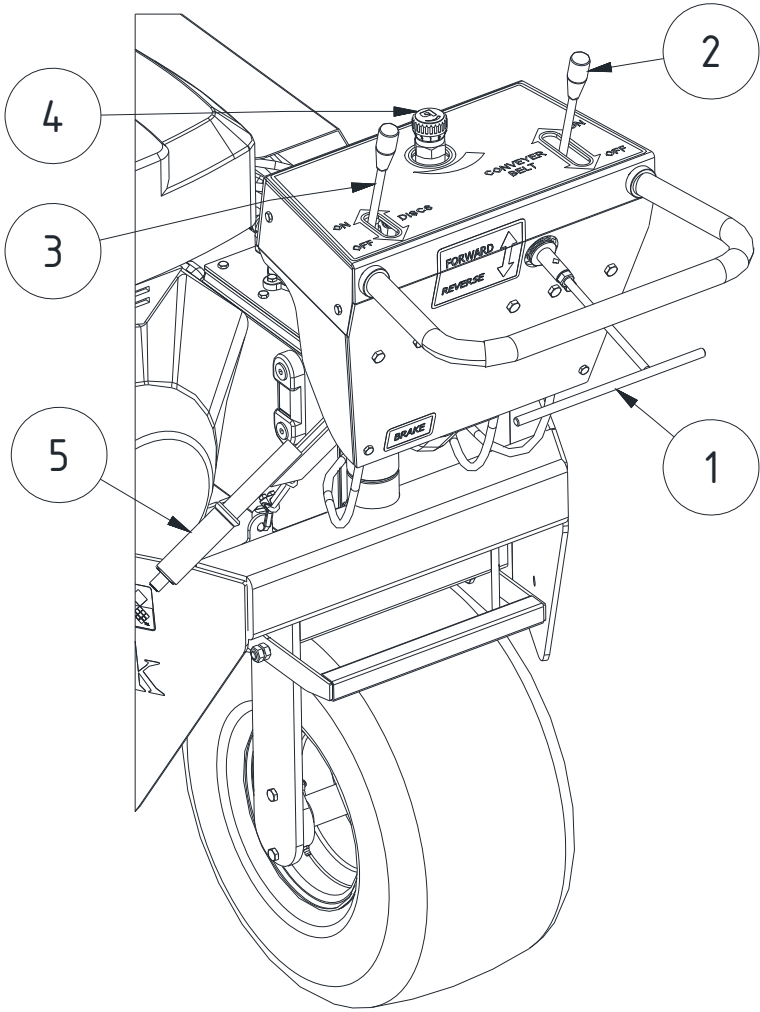
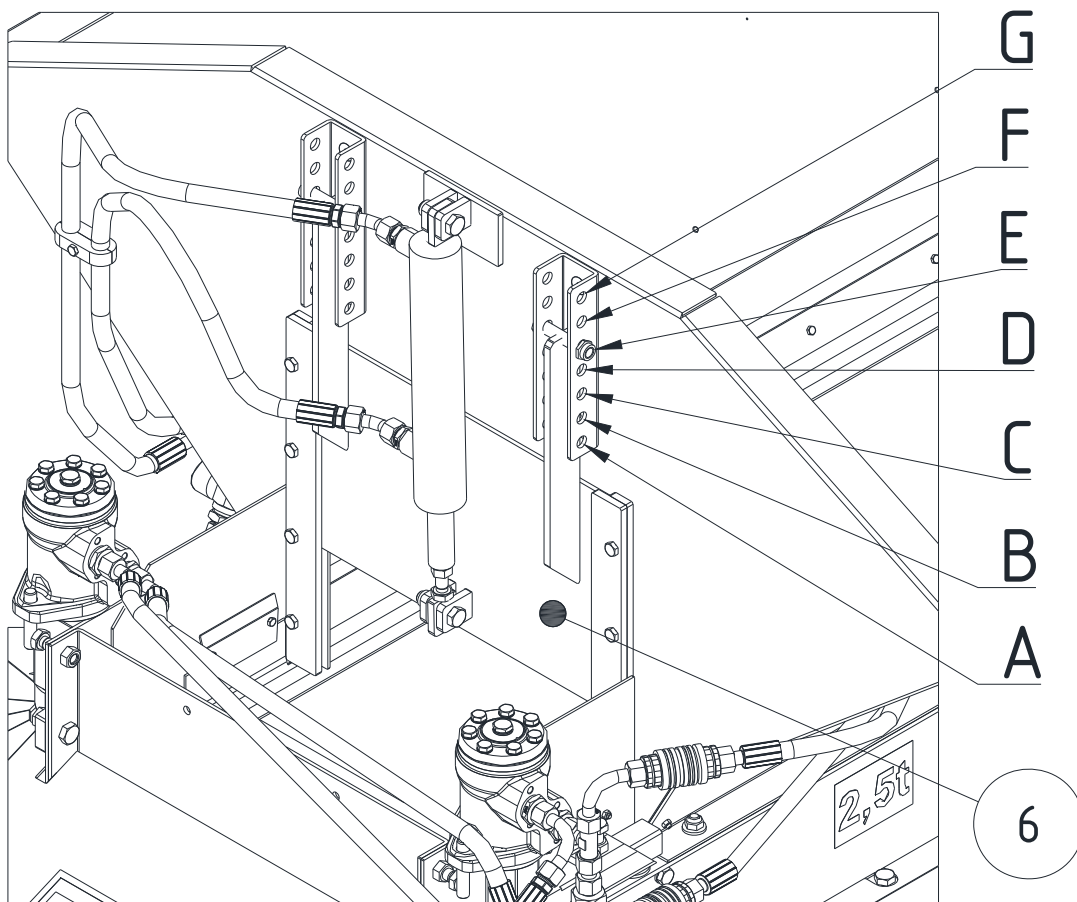
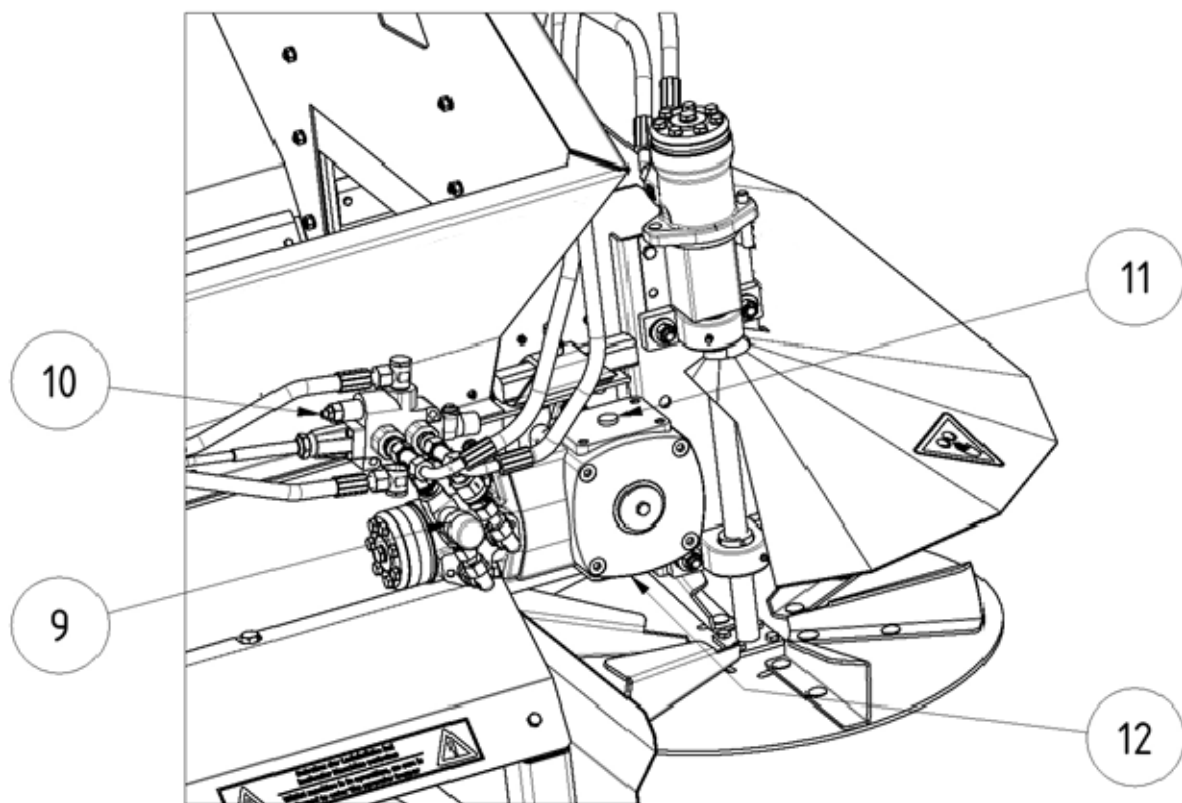

Fig. 1: Controls
Fig. 3: Controls
Fig. 7: Carriage gear
- By pulling the Disc Spreader controller (3), the oil circuit will be activated and the Disc Spreader will begin to spin. To move around the **RINK DS550SP Disc Spreader** and to turn on the belt, this controller must be pressed.
- With the help of the brake lever (5), the **RINK DS550SP Disc Spreader** can be prevented from rolling away.
- The controller (1) allows you to determine the direction of the **RINK DS550SP Disc Spreader**. For driving forward, it has to be pulled up. When in the centre position, the engine is idling. For reverse, completely push down the controller (1).
- In order to increase or reduce the running speed, the Flow regulator (4) must be rotated in the clockwise or anticlockwise direction.
- If the conveyor belt controller (2) is pulled up to the front final position, the valve will open (see page 11) and the conveyor belt is turned on. If switched back to the starting position, the conveyor belt will stop. Pressing the conveyor belt controller (2) in the front final position, the valve is closed.
When operating the Disc Spreader controller (3), the disc spreader is automatically activated. The conveyor belt and the valve (3) are activated by operating the conveyor controller (2), first the valve (3) is activated and then with a small delay, the conveyor belt is activated. Before starting work, select valve position A-D. (See page 8 - Fig. 1 and page 11 - Fig. 3)
- (1) Controller to adjust the speed of the conveyor belt
- (2) Controller to adjust the speed of the disc spreader
- (3) Valve (see page 11 - Fig. 3)
- Adjusting the opening of the A-D automatic valve (3) (see page 11 - Figure 3)
- Pressure relief valve (10) can be adjusted exactly to the inner hexagon (Fig. 7).
- Throttle valve (9) (Fig. 7) for the regulation of the valve (3) (see page 11 - Fig. 3).
Throttle valve set too low	Open throttle valve (9) to adjust valve (fig 7)
Rear drive roller and conveyor belt do not rotate	Increase pressure control valve (10) by turning a quarter of a turn clockwise (fig. 7)